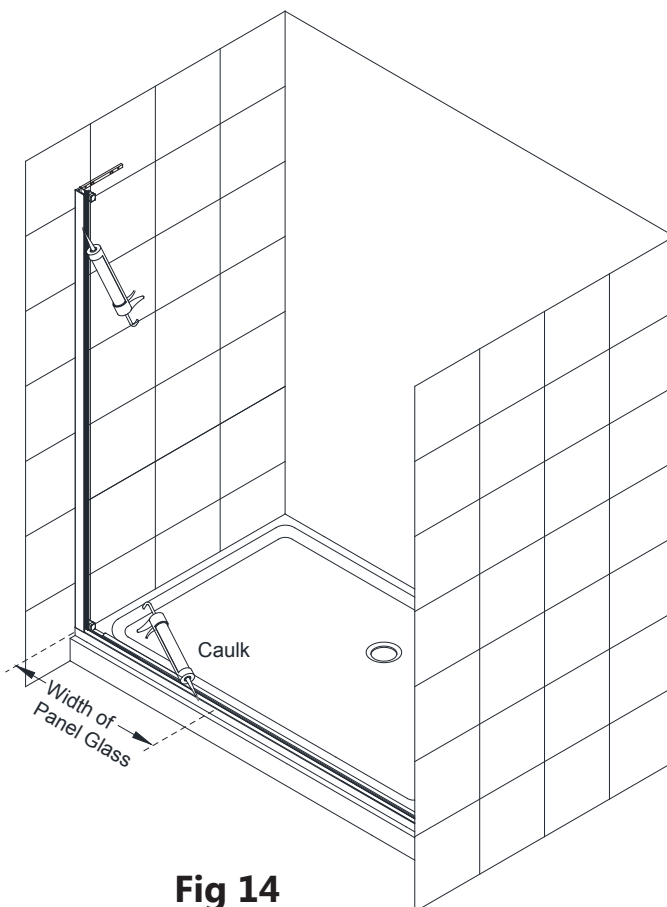

Fig 14
13. Apply silicone into the **Wall profile/U-Channel (#17)** and into the **Bottom Guide Rail (#03)** equal to the width of the panel glass. (**Fig 14**)